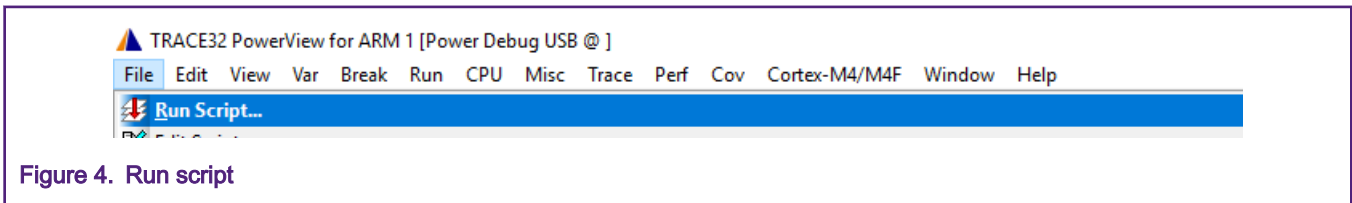

Figure 4. Run script
2. Power on the board, start the ARM-core and run the *MX8_misc/coresight-jtag-provision.cmm* script Figure 4.